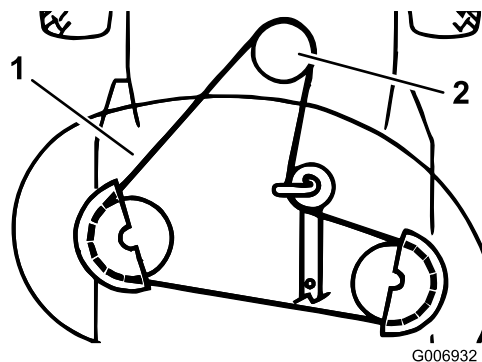

Figure 41
14. Remove the mower belt from the electric clutch pulley (Figure 41).
15. Remove the mower belt from the lower engine pulley (Figure 41).
6. Install the mower belt onto the lower engine pulley (Figure 41).